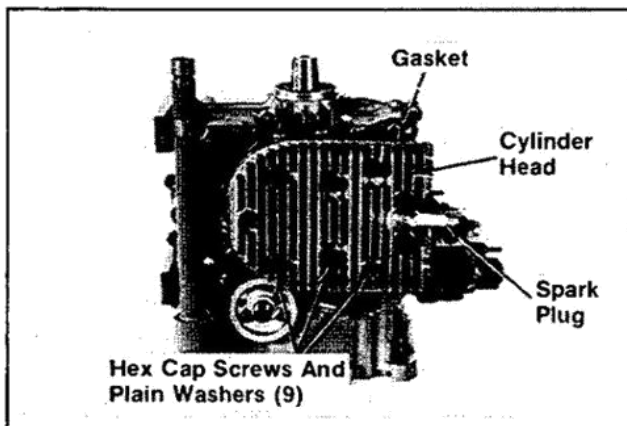

Figure 9-27. Removing Spark Plugs And Cylinder Heads.
2. Remove the hex cap screws, plain washers, cylinder heads, and gaskets. Refer to Figure 9-27.